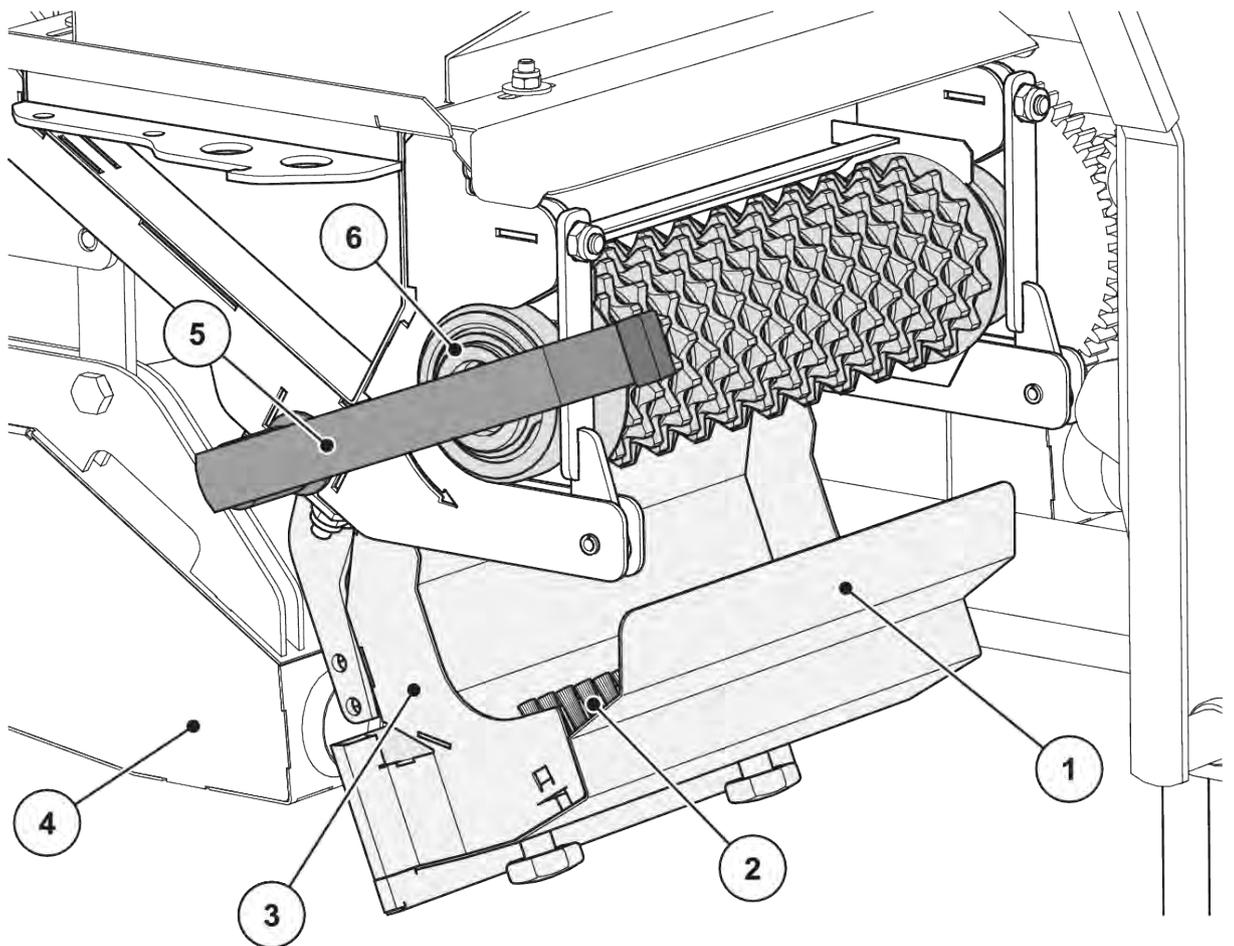

Fig. 13: Assemblies and functions of the machine, metering unit
- [5] Metering unit, see also *Fig. 13 Assemblies and functions of the machine, metering unit*